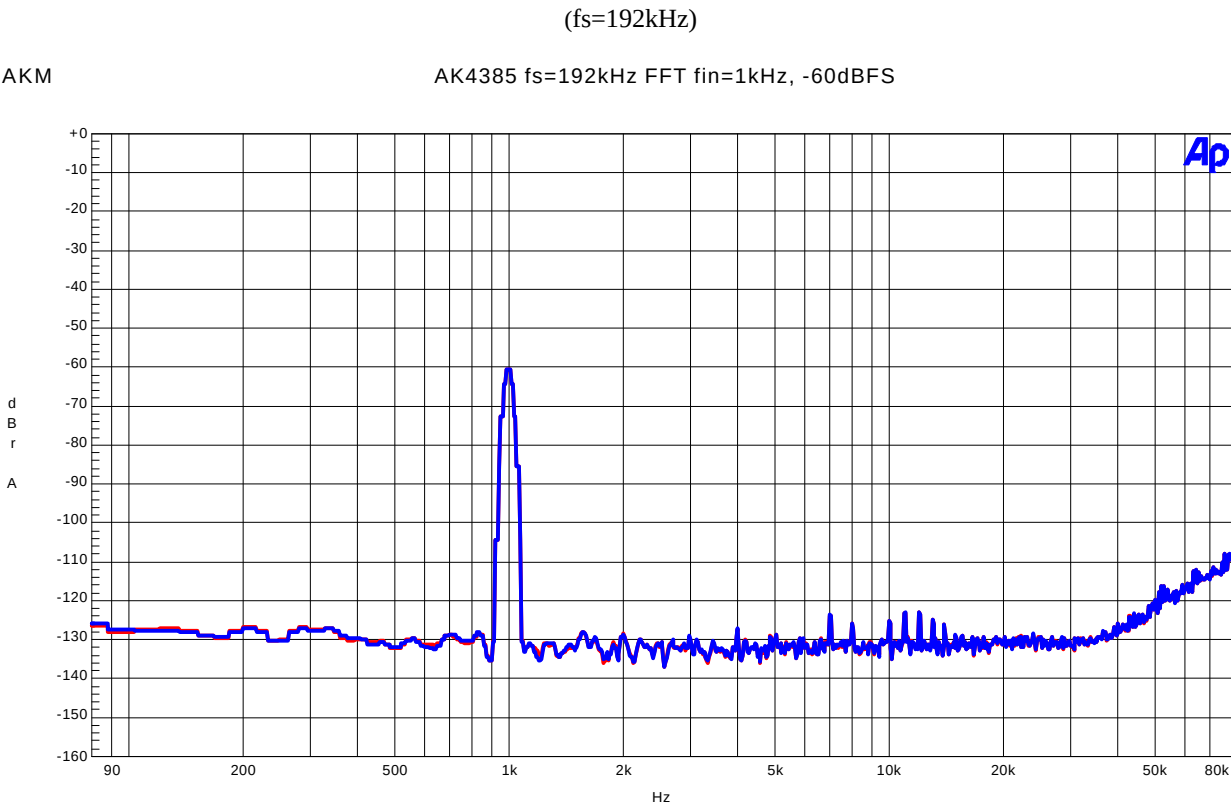

Figure27. FFT (1kHz, -60dBFS input)
- Figure27. FFT (1kHz, -60dBFS input)